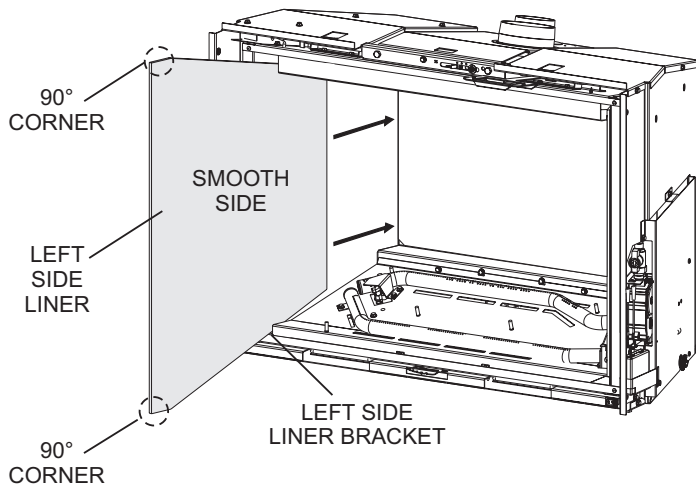

Figure 11
11. Verify the glass is oriented correctly as shown in **Figure 11**. Both front corners are at 90° angles. Slide left-side of liner along left side of firebox as shown with smooth surface toward the burners. Liner must go over or around left side liner bracket. When liner has passed the left side liner bracket, lower liner and slide forward until it rests behind the bracket. **See Figure 11.**
12. Repeat step 10 for right side assembly. **See Figure 11.**